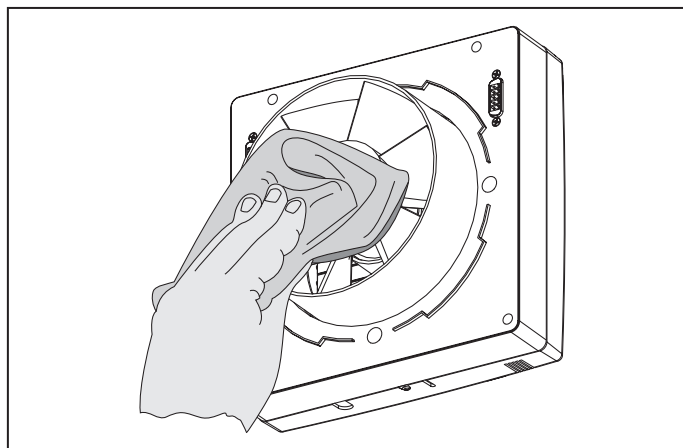

Fig. 23. Impeller blades cleaning
- Clean the impeller blades, fig. 23. Remove dust with a soft brush, cloth or a vacuum cleaner. Do not use water, abrasive detergents, solvents, sharp objects. Clean the impeller blades once in a year.